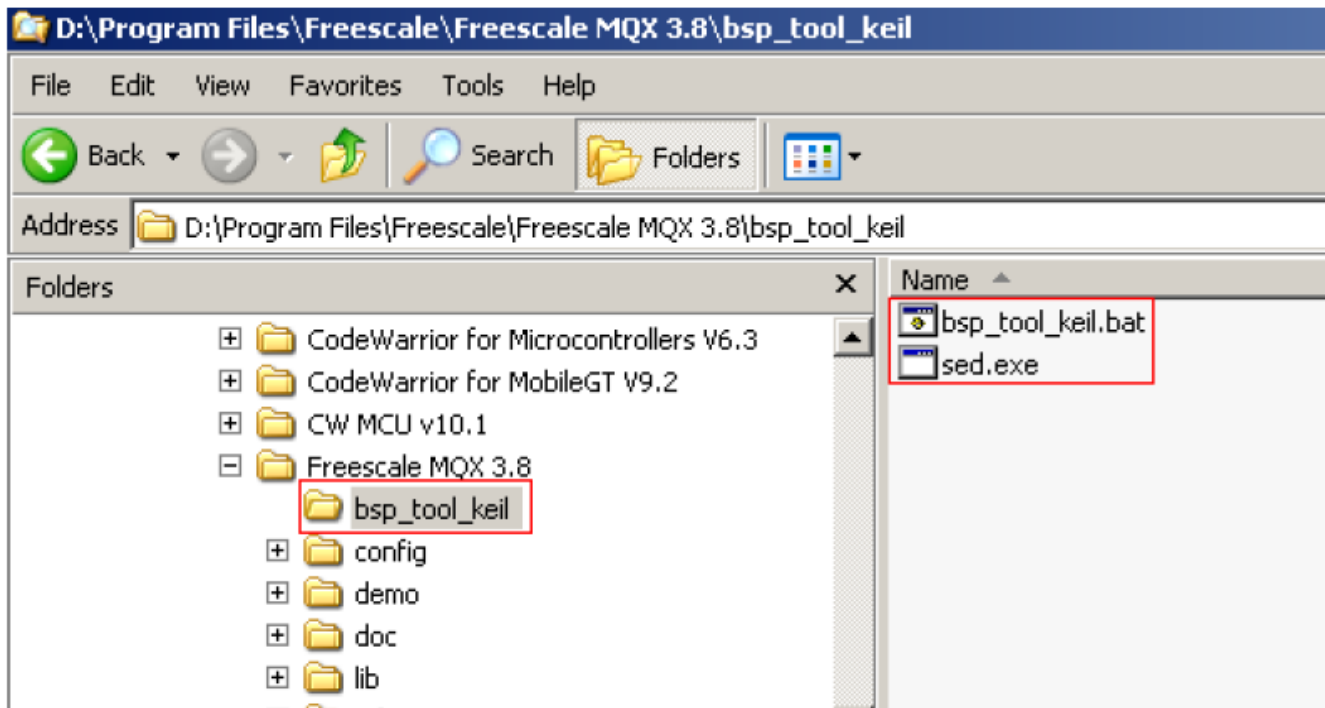

Figure 9. Copy the uncompressed files
1. Before using the commands, make a folder named bsp_tool_keil at <mqx_install>, uncompress the software attachment of this application note, and copy the files to <mqx_install>\bsp_tool_keil. See Figure 9.